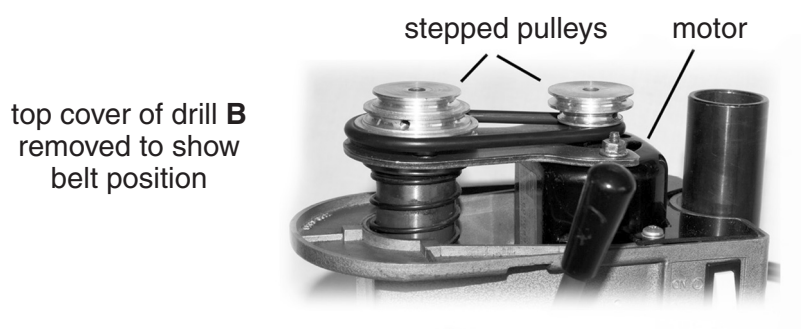

Fig. 10
- (ii) The speed of rotation on the pillar drill can be adjusted by moving the belt on the stepped pulleys shown in Fig. 10. The speeds available are 5000 rpm, 6500 rpm and 8500 rpm. State the speed setting of the drill shown in Fig. 10.